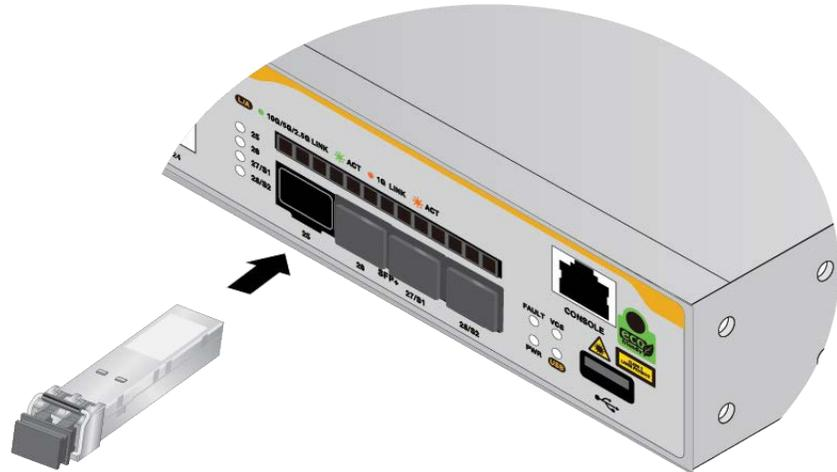

Figure 67. Installing SFP+ Transceivers
4. Slide the transceiver into the port until it clicks into place, as shown in Figure 67 on page 134.